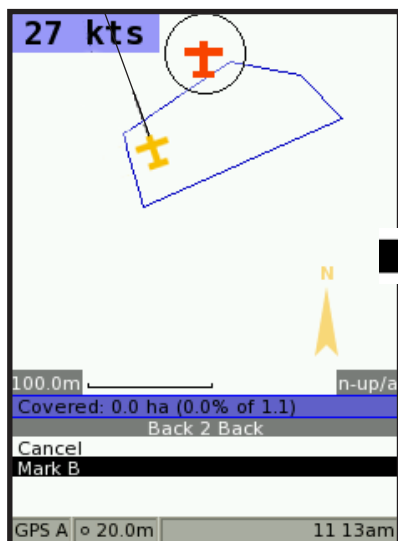

fig 3.2.1a
a) Highlight ‘**Mark A**’ and press , then press it again to ‘**Mark B**’ when appropriate (fig 3.2.1a)